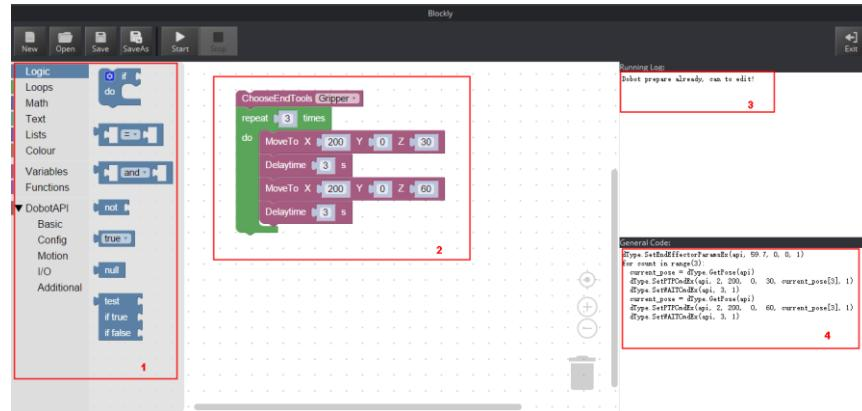

Figure 5.183 Blockly graphic programming
**Step 2** Drag the blockly module on the left pane of the **Blockly** page to program, as shown in Figure 5.183.
The demo in Figure 5.183 is described as follows.